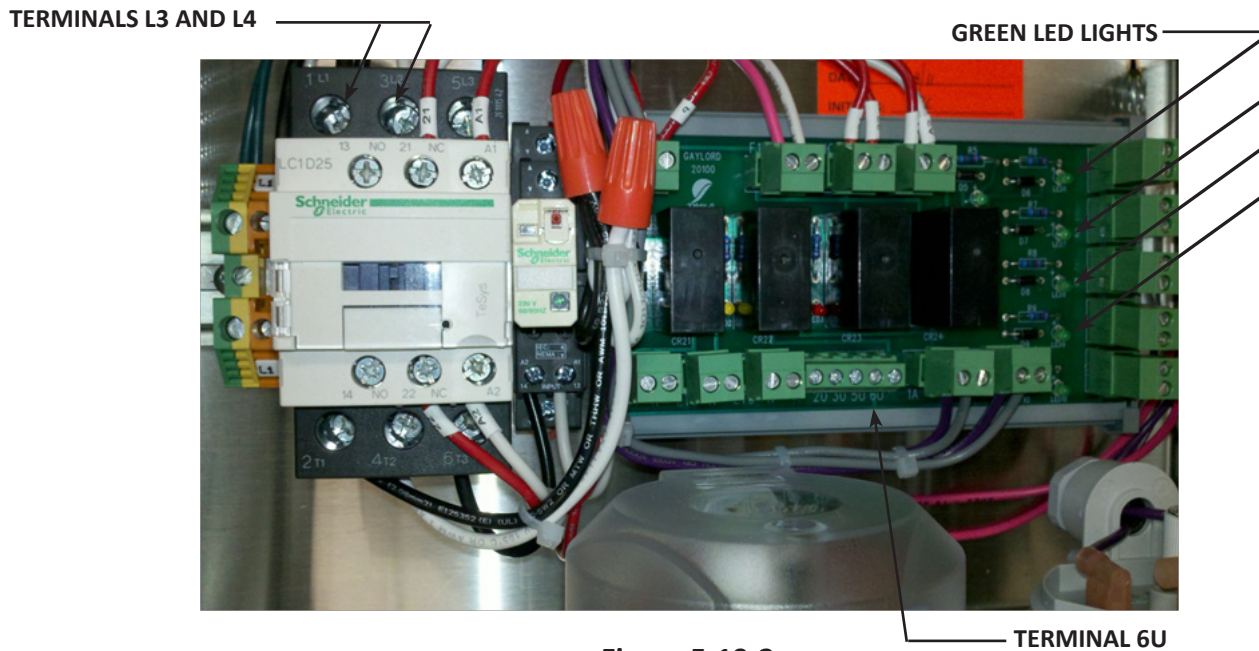

Figure 5-19-2
There are two Green and two Red Status Lights on a Ballast Board, one set for each Lamp (refer to Figure 5-19-2). The Status Lights are numbered Lamp 1 through 6 to correspond with the Lamp number. A Green light indicates the Lamp is operational and a Red light indicates the Lamp is not operational and must be replaced. If both lights are out then the Ballast Board is faulty and it must be replaced.
The UV Ventilation Control Board (Refer to Figures 5-19-2 and 5-22-2) monitors all the Safety Interlock Pressure Switches. If the Safety Interlock Pressure Switches are in a normal operational condition, a signal is sent to activate the Ballast Contactor allowing the UV System to operate. If a Safety Interlock Pressure Switch detects a problem, such as an Extractor Access Door or UV Module Access Panel being left open, a signal is sent to deactivate the Ballast Contactor which turns off the UV System. The UV Ventilation Control Board has three main components, the UV Monitoring Board, the Ballast Contactor and the Status Light Relay. If it is determined that any of these three components are defective replace as follows:
6. With gloves on and Ventilator running at 100%, turn the Adjustment Dial, as shown in Figure 5-19-1 on Pressure Switch “A”, COUNTER CLOCKWISE until you hear a click, and the corresponding green LED lights illuminate on the Ventilation Control Board, shown in Figure 5-19-2. Then turn the Adjustment Dial Pressure Switch “B” COUNTER CLOCKWISE until you hear a “click”. The green LED lights on the Ventilation Control Board will illuminate, and the green UVi SYSTEM ON light, on the Ventilator, will also come on. (NOTE: Both Pressure Switches need to be on for the UV system to turn on. LED lights will always come on when the pressure switch closes)
2. Verify power is shut down by checking voltage on terminal 6U on the Ventilation Control Board. Also check terminals L3/L4. Voltage for both needs to be 0. Refer to Figure 5-19-2